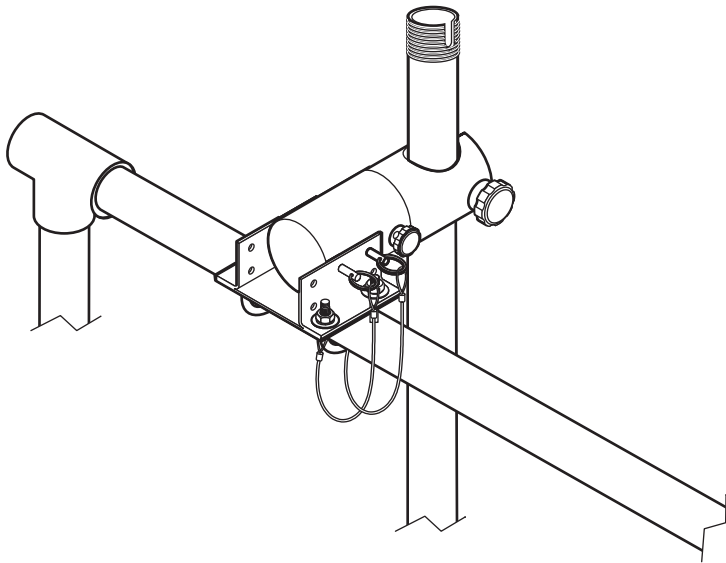

Figure 5 Installing the immersed pipe
3. Fit the immersed pipe through the immersed pipe bracket and tighten the large knurled bolt (Figure 5 on page 4).